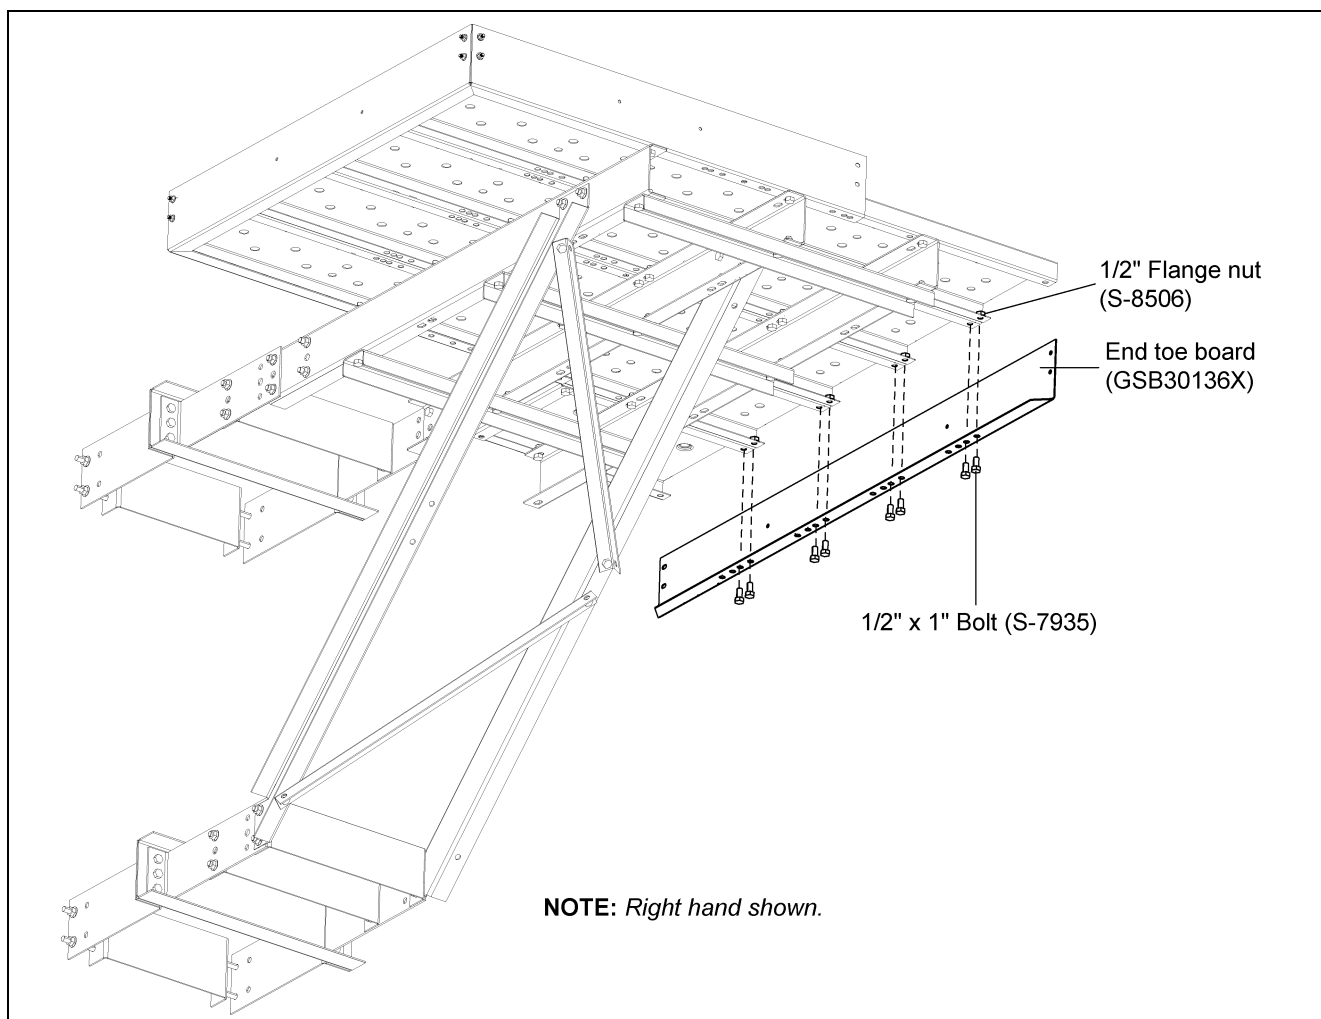

Figure 12K 16" Distributor Platform Toe Board
3. Attach the flange of the toe board short side to the bottom of the 18" decking using two (2) 1/2" x 1" bolt and nuts. Then attach 18" decking to the external platform support using one 1/2" x 1" bolt and nut. *(See Figure 12K on Page 111.)*